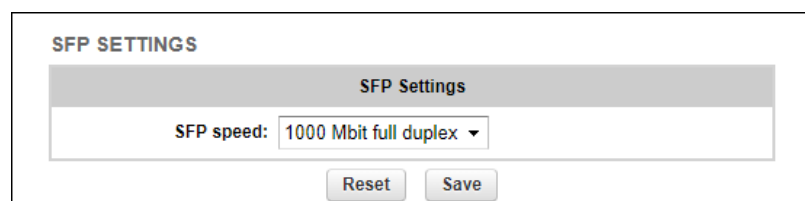

Figure 33. Configurator GUI (SFP Settings dialog)
- The **SFP SETTINGS** dialog will be shown (Figure 33 \(page 106\)).